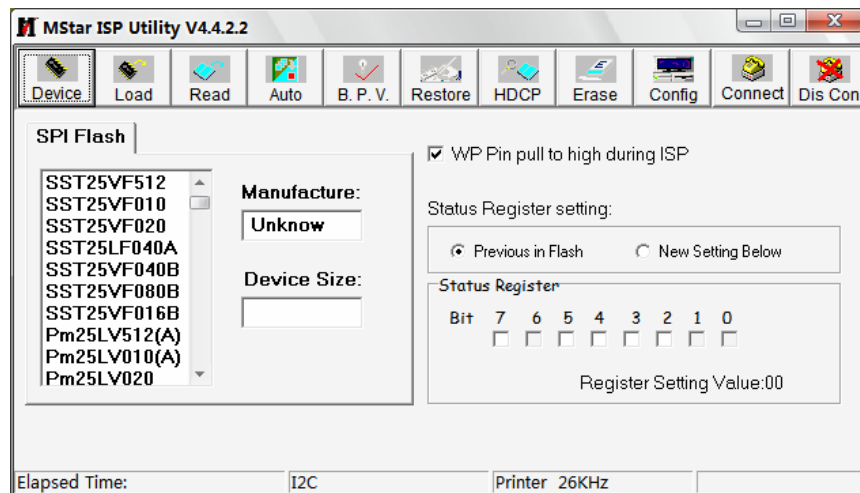

Fig. 2 Write protection setting
- 2) Use Mstar upgrading instrument (V4.4.2.0 or higher version), enter into menu “Device”, tick off “WP Pin pull to high during ISP” to make sure Flash hardware write protection is removed and erasing process is normal; please refer to Fig.2;